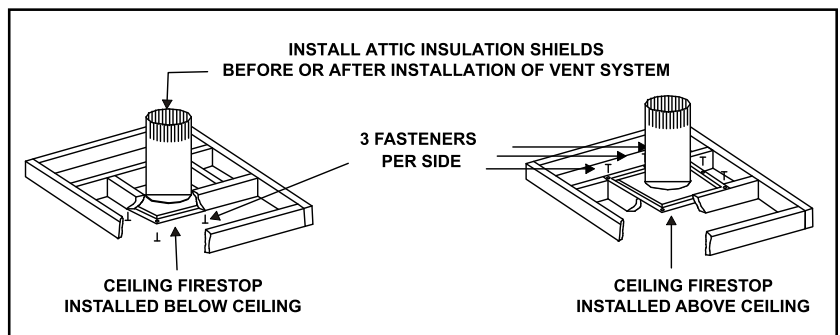

Figure 8.4 - Installing the Attic Shield
- The ceiling firestop may be installed above or below the ceiling joists when installed with a attic insulation shield. It must be under joists between floors that are not insulated. Refer to Figure 8.4.